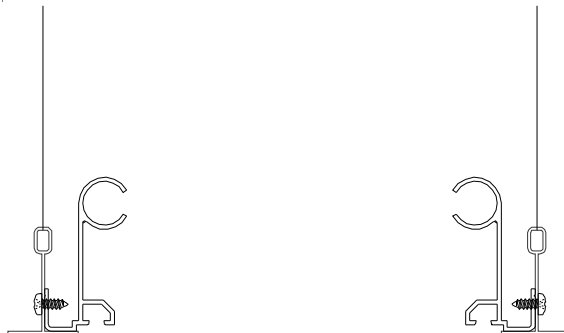

Figure 5
**STEP 6.** Select the base member section and the anchors. Place the base member into its installed position on the ceiling tee, ensuring that the base member is level and properly aligned and that the anchor holes in the base member are aligned with the anchor holes in the ceiling tee. Using the fasteners provided by the factory, attach the base member to the ceiling tee (see Figure 5).